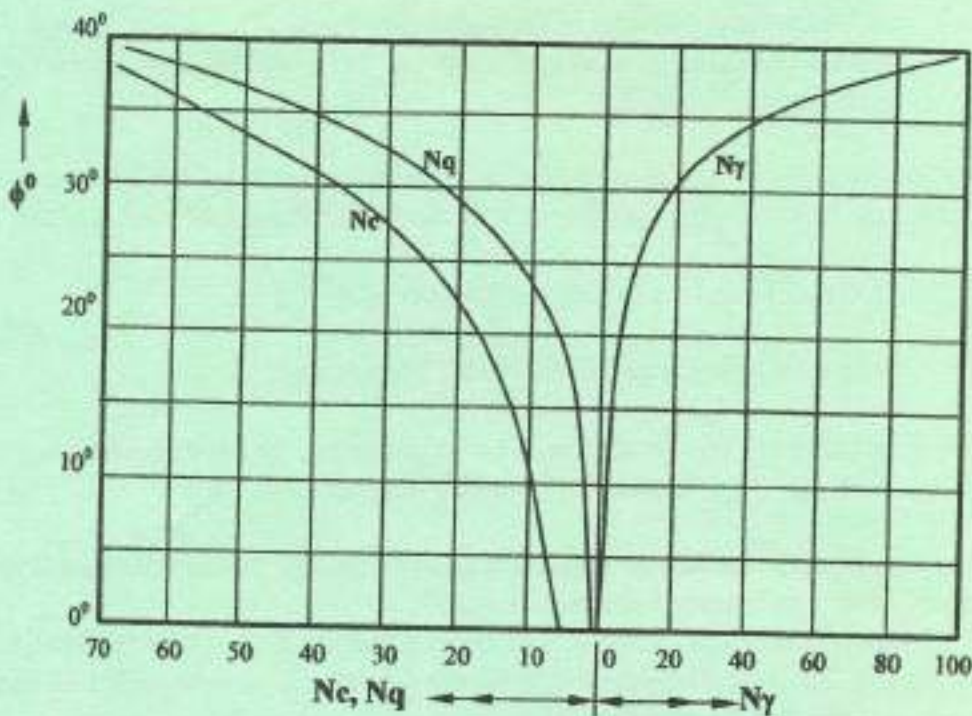

Fig 2: Bearing Capacity Factors
- (iii) A strip footing 2.5m wide is to be constructed at a depth of 2m below ground level. The cohesion of the soil is 65kN/m^2 , its density is 1800kg/m^3 , and angle of shearing resistance $\phi = 25^\circ$. Determine the safe bearing capacity of the soil. Use Terzaghi's bearing capacity factors in Figure 2, and apply a factor of safety of 3. (8½ marks)